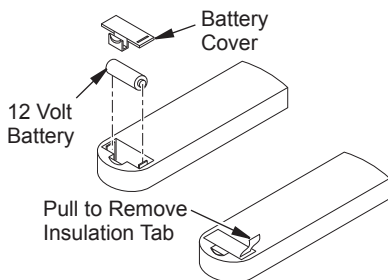

Figure 37 - Installing Battery in Hand-Held Remote Control Unit (SKYTECH)
5. Activate handset battery by removing insulation tab on back (see Figure 37).